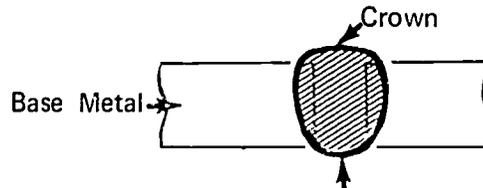

FIGURE 4 Complete Penetration
1. Travel at a speed to penetrate the joint completely (Figure 4)